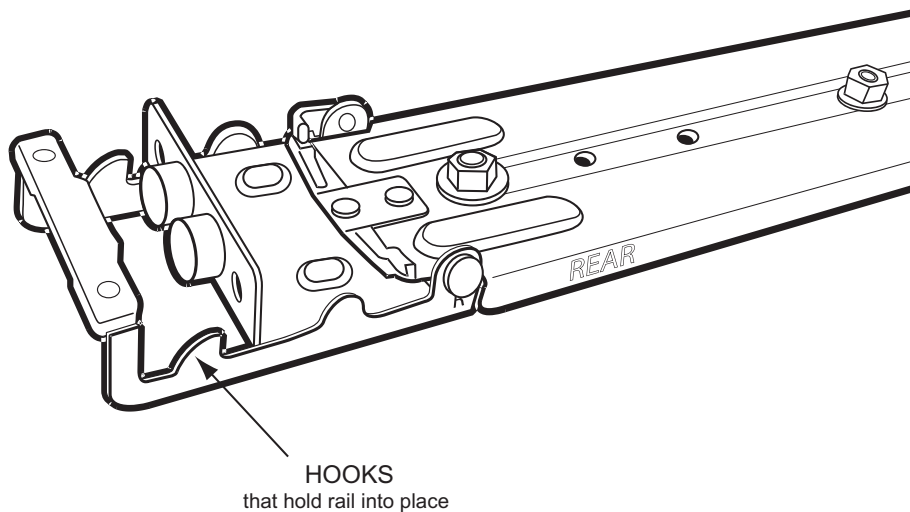
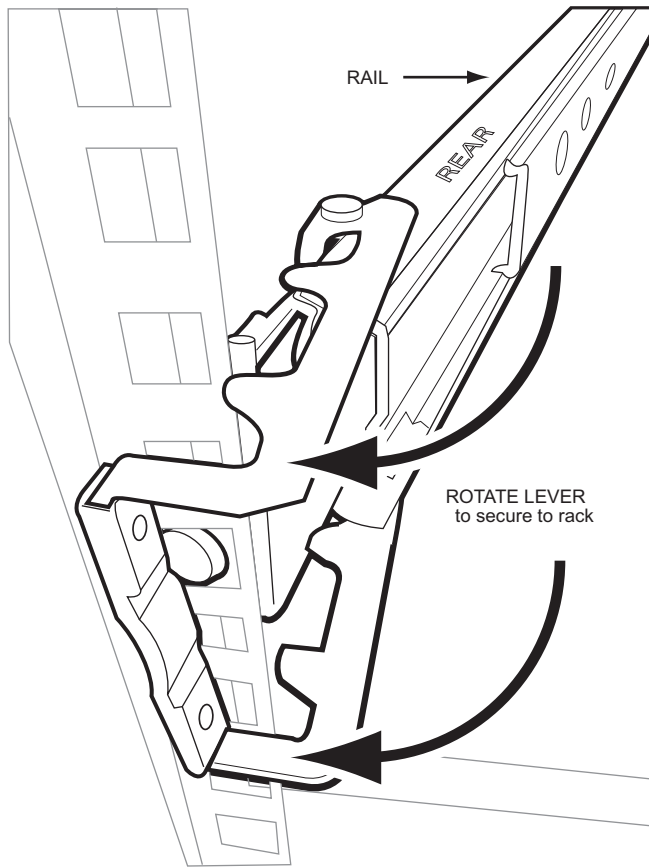

Figure 2.2 Detail View of Slider Rail Rear Retaining Hooks
Figure 2.3 Detailed View of Slider Rail Rear Retaining Hooks being Locked onto the Rear of the Equipment Rack
- 1b. Attach the rear end of the slider rail to the rear edge of the equipment rack. See figure 2.2 on page 15 and figure 2.3 on page 16.